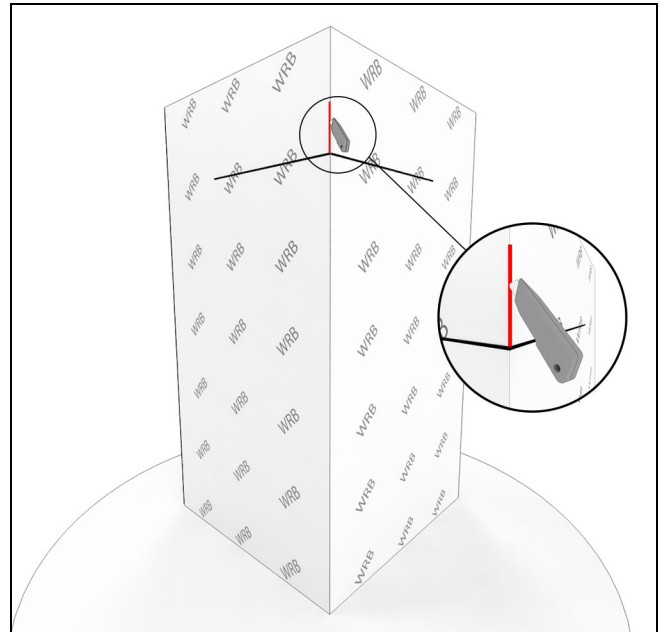

Figure 3
4. Make one 6" (152) vertical cut on the corner. See Figure 3.